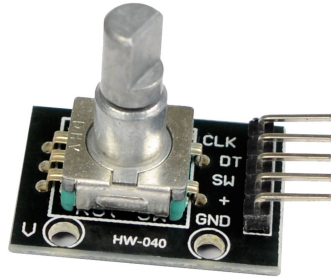

Figure 6.3: Encoder Module
We will be using HW-040 rotary encoder module (as shown in Figure 6.3) in this experiment to interface to STM32F4 microcontroller. It is a type of rotary encoder, commonly used as a rotating input knob. It features 30 pulses per revolution (PPR) and includes a built-in push-button switch, activated when the knob is pressed.
- (a) Connect the HW-040 module to the STM32F4 microcontroller and the motor according to the following schematic (Figure 6.3).